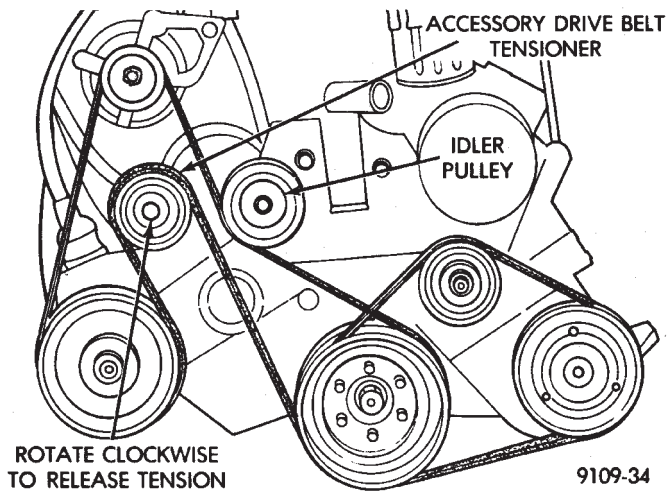

Fig. 4 3.0l Serpentine Drive Belt Routing
(1) REMOVE THE (-) NEGATIVE BATTERY CABLE FROM THE BATTERY AND ISOLATE CABLE.
(2) Remove the serpentine accessory drive belt from engine (Fig. 4). See Cooling, Group 7 for detailed removal procedure.